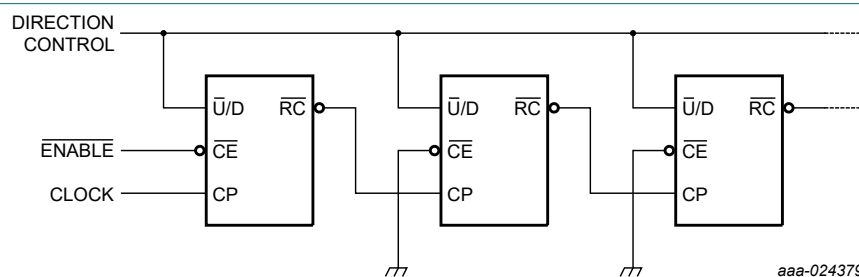
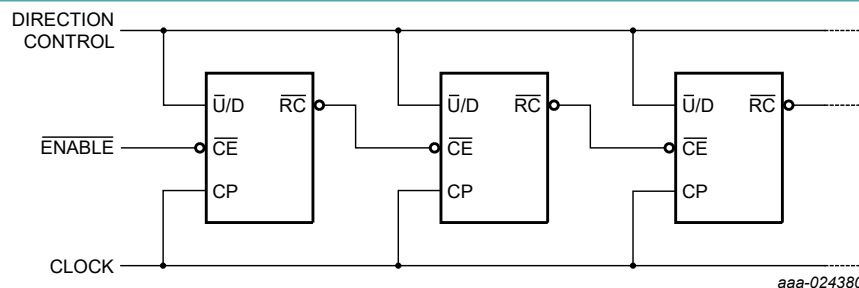
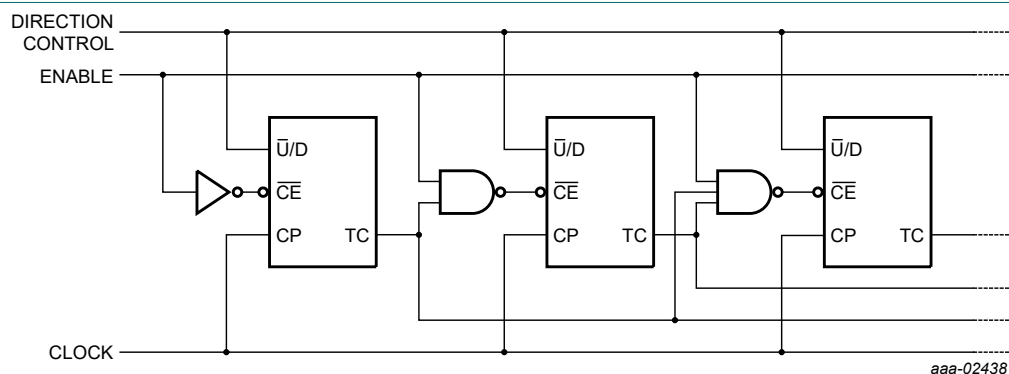

Fig. 5. N-stage ripple counter using ripple clock
Fig. 6. Synchronous n-stage counter using ripple carry/borrow
Fig. 7. Synchronous n-stage counter with parallel gated carry/borrow
The 74HC191 is an asynchronously presetable 4-bit binary up/down counter. It contains four master/slave flip-flops with internal gating and steering logic to provide asynchronous preset and synchronous count-up and count-down operation. Asynchronous parallel load capability permits the counter to be preset to any desired value. Information present on the parallel data inputs (D0 to D3) is loaded into the counter and appears on the outputs when the parallel load (\overline{PL}) input is LOW. This operation overrides the counting function. Counting is inhibited by a HIGH level on the count enable (\overline{CE}) input. When \overline{CE} is LOW internal state changes are initiated synchronously by the LOW-to-HIGH transition of the clock input. The up/down ($\overline{U/D}$) input signal determines the direction of counting as indicated in the function table. The \overline{CE} input may go LOW when the clock is in either state, however, the LOW-to-HIGH \overline{CE} transition must occur only when the clock is HIGH. Also, the $\overline{U/D}$ input should be changed only when either \overline{CE} or CP is HIGH. Overflow/underflow indications are provided by two types of outputs, the terminal count (TC) and ripple clock (\overline{RC}). The TC output is normally LOW and goes HIGH when a circuit reaches zero in the count-down mode or reaches '15' in the count-up-mode. The TC output will remain HIGH until a state change occurs, either by counting or presetting, or until $\overline{U/D}$ is changed. Do not use the TC output as a clock signal because it is subject to decoding spikes. The TC signal is used internally to enable the \overline{RC} output. When TC is HIGH and \overline{CE} is LOW, the \overline{RC} output follows the clock pulse (CP). This feature simplifies the design of multistage counters as shown in Fig. 5 and Fig. 6. In Fig. 5, each \overline{RC} output is used as the clock input to the next higher stage. It is only necessary to inhibit the first stage to prevent counting in all stages, since a HIGH on \overline{CE} inhibits the \overline{RC} output pulse. The timing skew between state changes in the first and last stages is represented by the cumulative delay of the clock as it ripples through the preceding stages. This can be a disadvantage of this configuration in some applications. Fig. 6 shows a method of causing state changes to occur simultaneously in all stages. The \overline{RC} outputs propagate the carry/borrow signals in ripple fashion and all clock inputs are driven in parallel. In this configuration the duration of the clock LOW state must be long enough to allow the negative-going edge of the carry/borrow signal to ripple through to the last stage before the clock goes HIGH. Since the \overline{RC} output of any package goes HIGH shortly after its CP input goes HIGH there is no such restriction on the HIGH-state duration of the clock. In Fig. 7, the configuration shown avoids ripple delays and their associated restrictions. Combining the TC signals from all the preceding stages forms the \overline{CE} input for a given stage. An enable must be included in each carry gate in order to inhibit counting. The TC output of a given stage is not affected by its own \overline{CE} signal therefore the simple inhibit scheme of Fig. 5 and Fig. 6 does not apply. Inputs include clamp diodes. This enables the use of current limiting resistors to interface inputs to voltages in excess of V_{CC} .